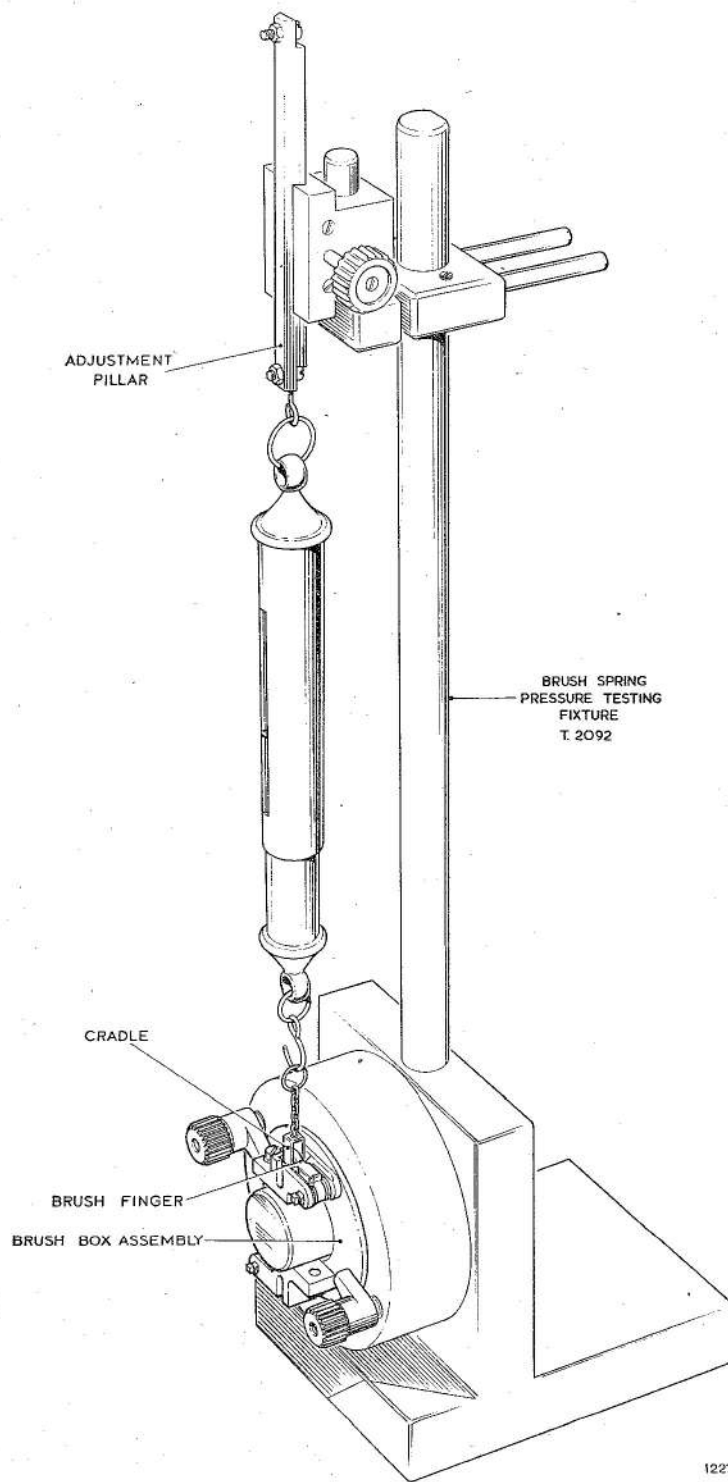

Fig. 2. Brush spring pressure testing fixture
(2) Insert the brush spring spindle (28) from the back of carrier (34) locating the centre arm of the spring in the spindle slot.
(3) Before locating the square section of the spring spindle in the holder, grip the end of the spindle and tighten the spring by twisting through 90 degrees. Locate the spindle square-section in the holder.
(4) Check the brush spring loading as follows:
(a) Fit a plug to the fixture T.2092 (fig. 2) of the same nominal diameter as the commutator (see Table 3). Fit the brush gear to the fixture and slip into the brush box the special fibre brush with centre conductor rod. This brush should be of the same dimensions as a new brush (33).